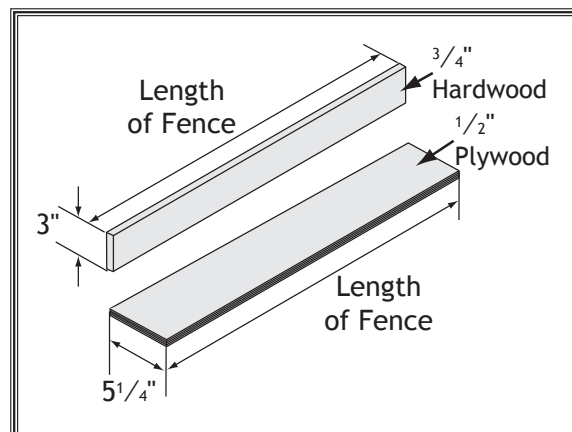

Figure 75. Auxiliary fence dimension.
1. Cut a piece of $\frac{3}{4}$ " thick plywood $5\frac{1}{4}$ " wide and as long as your table saw fence; cut a piece of $\frac{3}{4}$ " thick hardwood 3" wide and as long as your table saw fence, as shown in **Figure 75**.